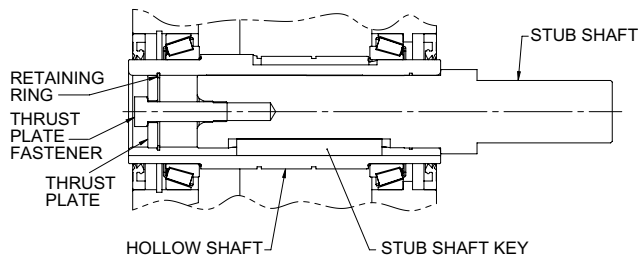

Figure 3
1. Install thrust plate and retaining ring into hollow shaft as illustrated in Figure 3.